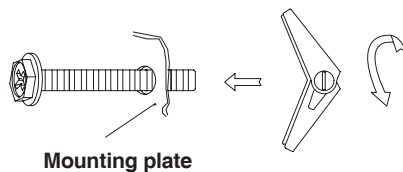

**Figure 18**
- Draw a vertical line on the wall at the center of the 30" wide space. See Figure 18.